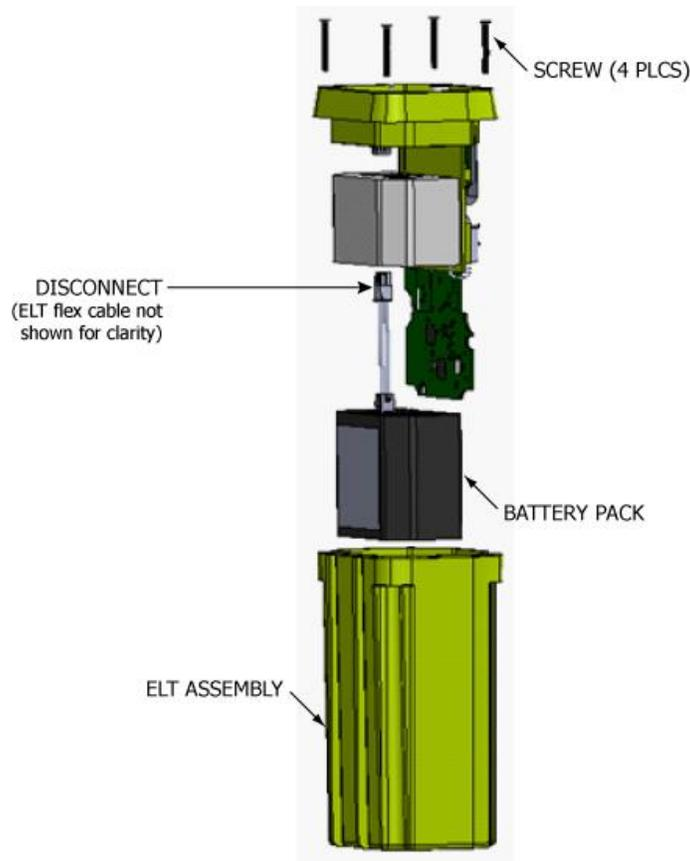

Figure 10 Battery Pack Removal
- 1) See Figure 10 Battery Pack Removal.